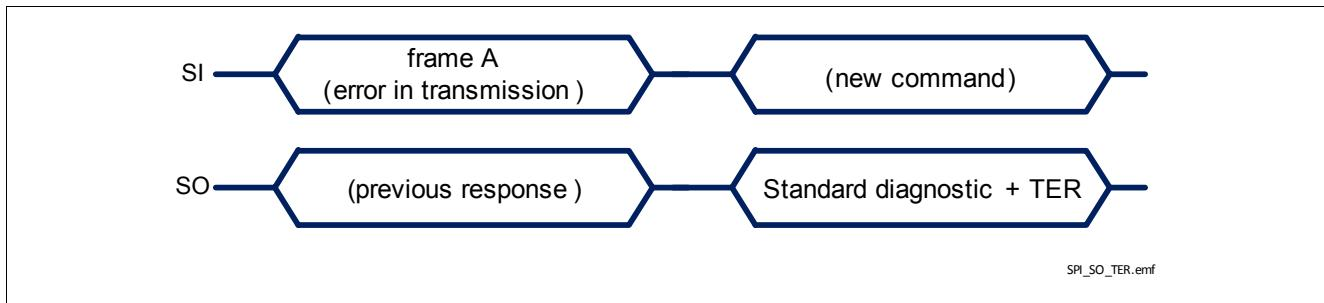

Figure 39 TLE75242-EMH response after a error in transmission
- in case an error in transmission happened during the previous frame (for instance, the clock pulses were not multiple of 8 with a minimum of 16 bits), shown in Figure 39